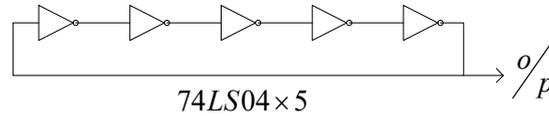

Fig. 2. Ring oscillator.
1. Connect 5 inverters as shown in Fig. 2. No input is necessary. That is, the FG is not used here. **Remember the FG is not used to provide power to the ICs.**